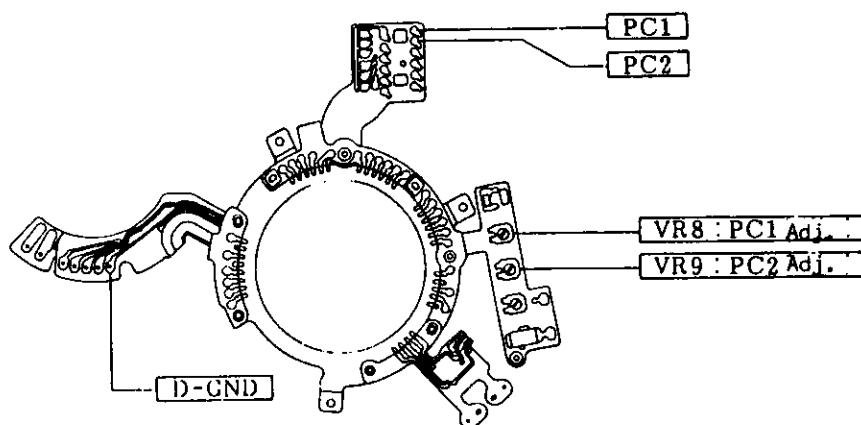

Fig. 13
Remove (1) through (7) on pg. 9, mount a camera, and attach test leads to the main flex at PC1, PC2 and D-GND (Fig. 13).